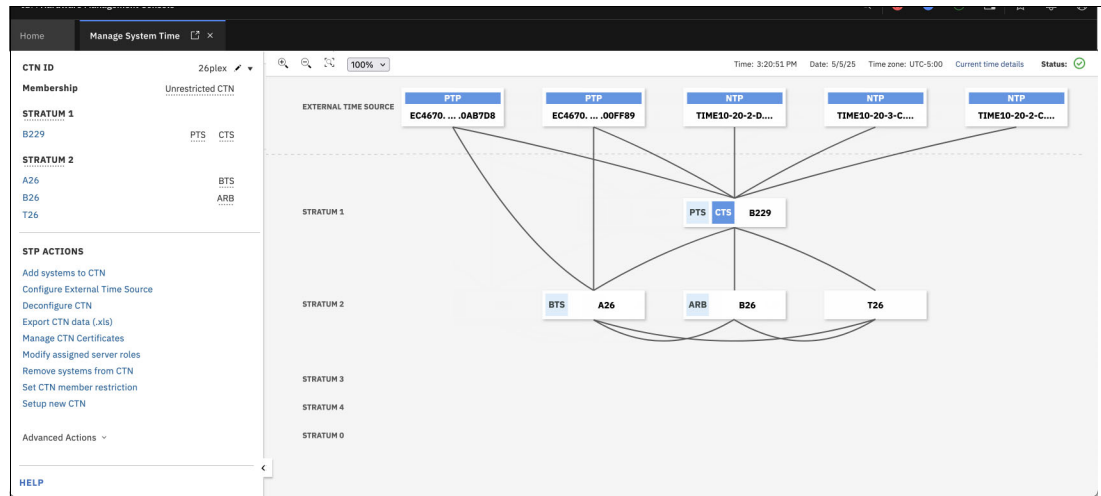

Figure 3-17 CTN configuration shown in the Manage System Time tab
15. View the final configuration, as shown in Figure 3-17
- To modify server roles, select the **Modify assigned server role** task on the left menu of the Manage System Time tab (see Figure 3-17 on page 50).